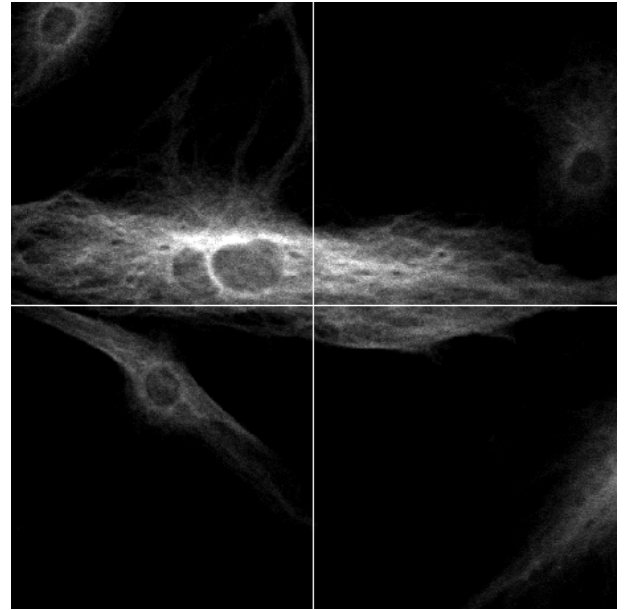

Fig. 9-140 Manual stage positioning with the ConfoCor 3
- ☞ If no position is selected in the ConfoCor 3, the scanners and stage will stay and if no offset, pan or rotation was defined, the bleached spot will be at the center of the image (Fig. 9-140).